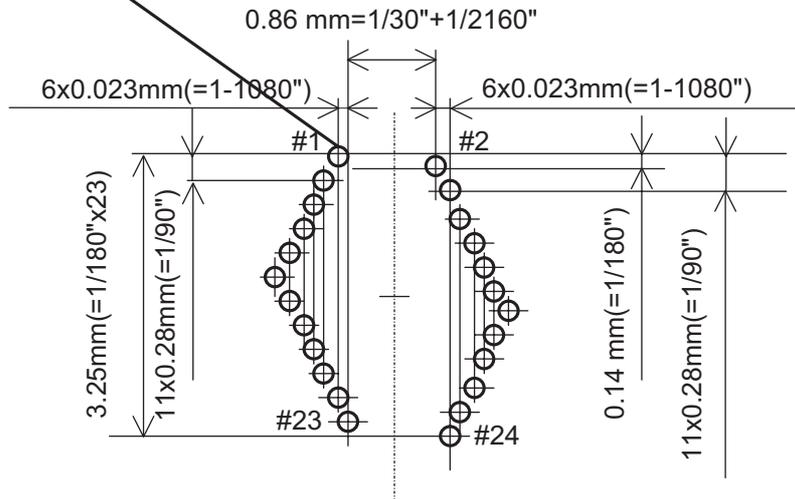

Figure 1-2. Pin Arrangement
- Print pin arrangement 24-pin rhombus (See Figure 1-2.)